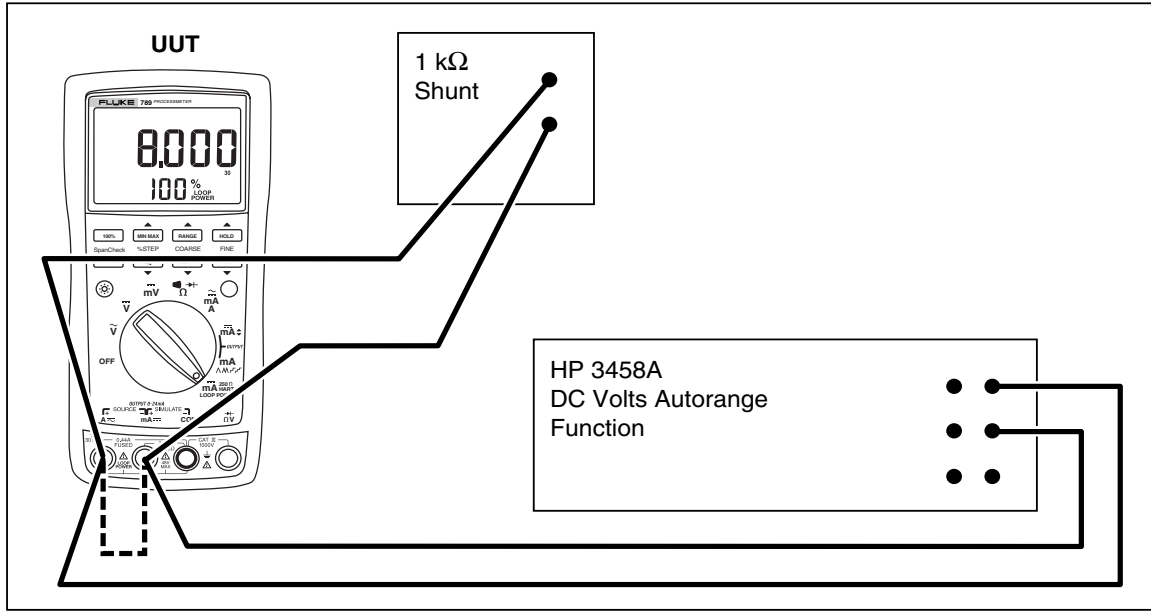

Figure 2. Verifying Loop Power
On page 12, replace the **Loop Power** procedure, and Figure 2 with the following:
8. Measure the loaded down voltage and verify it is greater than 23.8 V and less than 32 V see Figure 2.